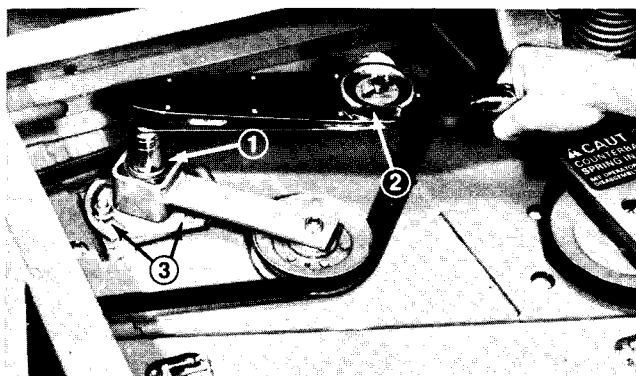

Figure 19
3. Loosen the two nuts securing the idler plate in place (Figs. 19). Use a torque wrench to tighten the idler adjusting nut until the proper torque value is achieved.
4. Hold the torque against the belt and tighten the two nuts so that the idler plate is held securely in that position (Figs. 19). Release the idler adjusting nut and install the belt cover.